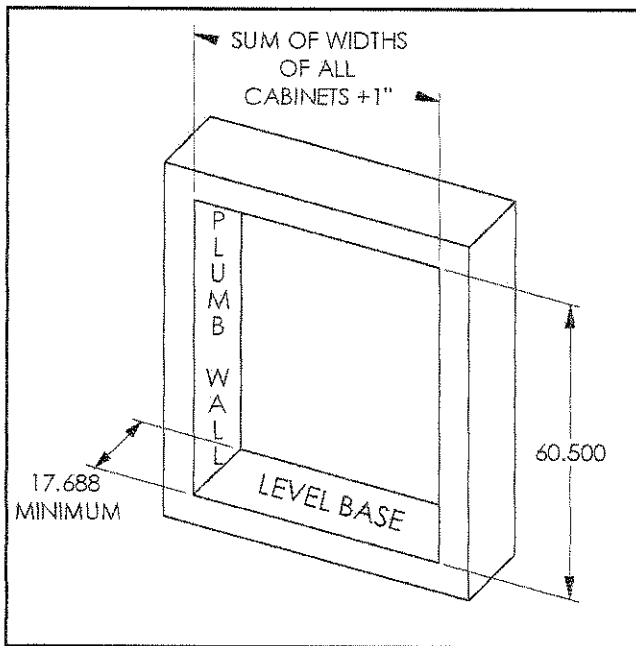

Figure 9
2. Wall must be prepared as shown in Figure 9. Set cabinet (and base if provided) in place and level each cabinet, shimming if necessary. Shims not provided.